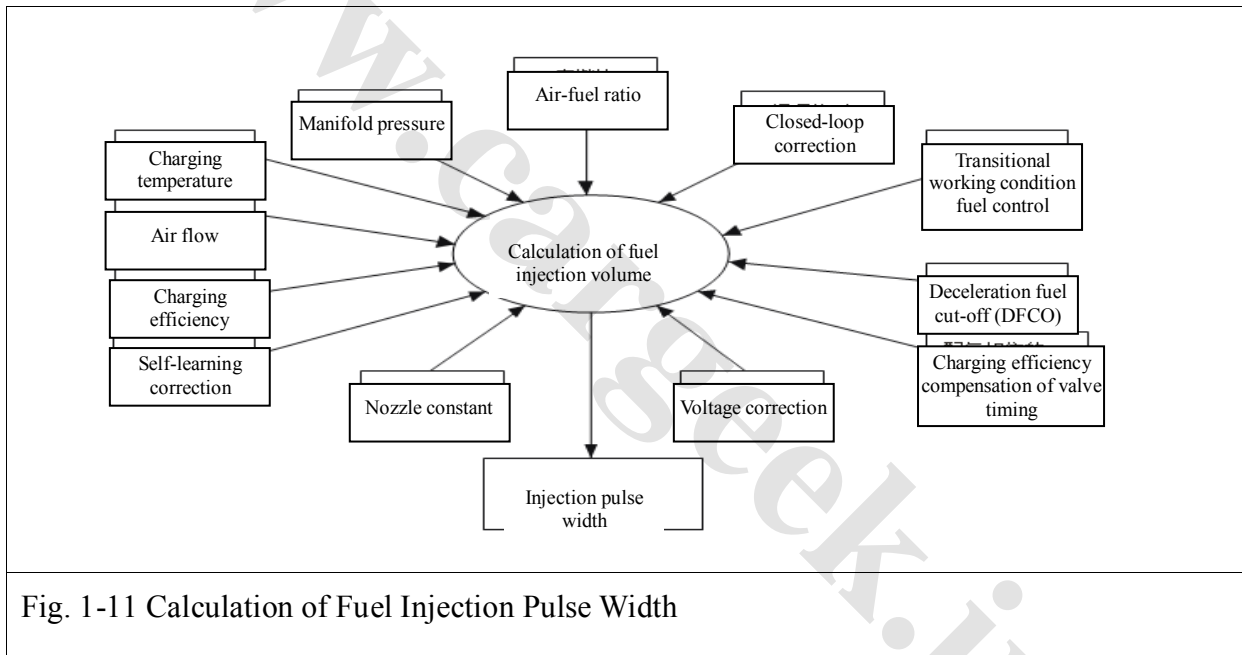

Fig. 1-11 Calculation of Fuel Injection Pulse Width
3. Calculation of fuel injection pulse width (see Figure 1-11)